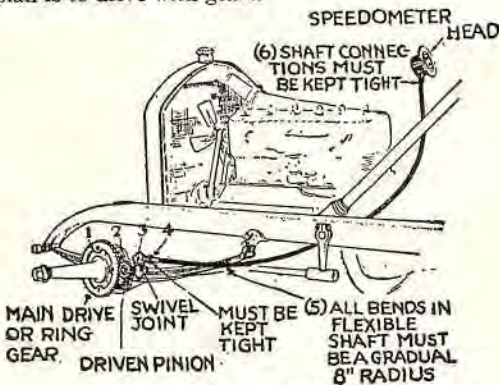
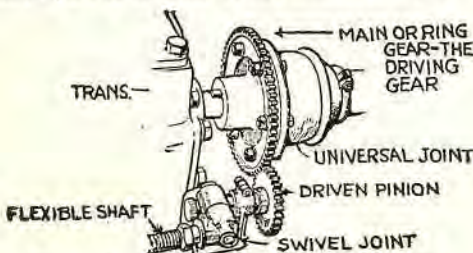

Fig. 5. Drive from front wheel.
Fig. 6. Stewart speedometer, propeller-shaft drive.
Front wheel drive: The speedometer can be driven from the front wheel (Fig. 5), or off the propeller or transmission shaft, as in Fig. 6. The usual plan is to drive with gears.
transmission main shaft. Fig. 6 shows how the driving gear is attached to the front of the forward universal joint. The swivel joint and gear section are clearly depicted. Other manufacturers are now adopting a set of gears inside of the transmission case, to drive the speedometer shaft.
The gear reduction in the swivel joint is mounted close to the driven pinion, as shown in Figs. 5 and 7. When installed on the left-hand wheel, a swivel joint is used which reverses the direction of rotation.
On all Stewart speedometers the space between the main gear (1, Fig. 5) and the pinion gear (2), should be 1/16". Also note that the main gear should have twice the number of teeth that there are inches in the diameter of the tire.